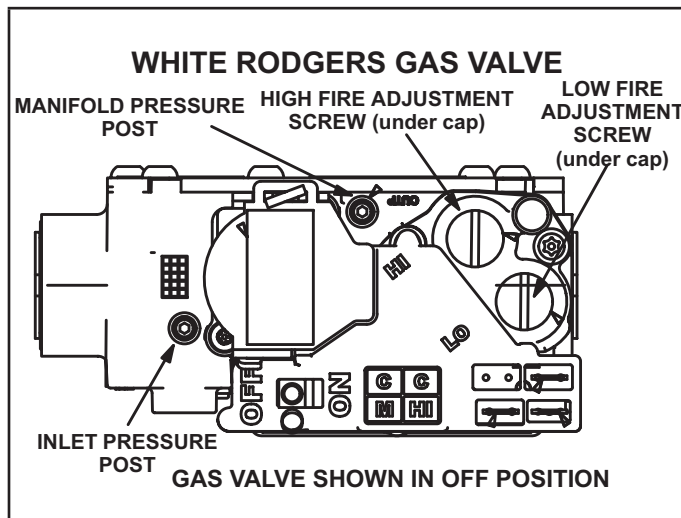

Figure 6
- 2 - Remove the access panel. Move the automatic gas valve switch to OFF. See figure 6.
- 6 - Move the switch on the gas valve to OFF. Do not force the switch. See figure 6.
An inlet pressure post located on the gas valve provides access to the supply pressure. See figure 6. Back out the 3/32 hex screw one turn, connect a piece of 5/16 tubing and connect to a manometer to measure supply pressure. Check the unit on high fire. On multiple unit installations, check the unit separately and with the other units operating. See table 1 for supply line pressure. Following the supply pressure check, turn off unit, remove manometer and tighten post hex screw.
A manifold pressure post located on the gas valve provides access to the manifold pressure. See figure 6. Back out the 3/32 hex screw one turn, connect a piece of 5/16 tubing and connect to a manometer to measure manifold pressure.
- 1 - Connect test gauge to manifold pressure post (figure 6) on gas valve.
- 4 - If necessary, make adjustments. Figure 6 shows location of high fire and low fire adjustment screws.